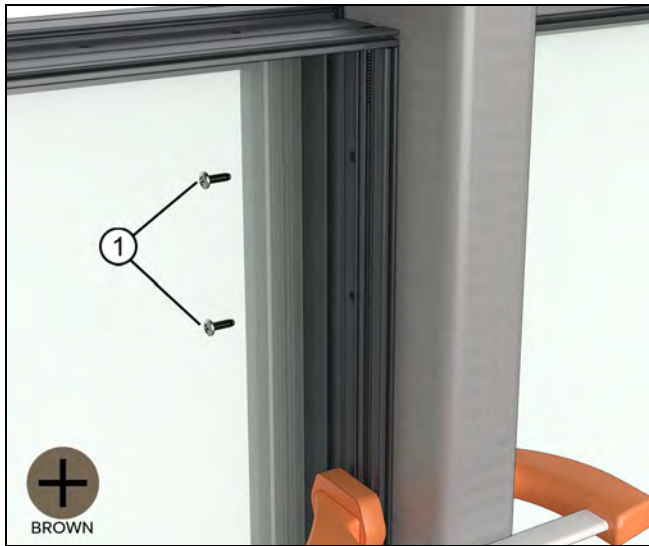

Figure 139
24. Fasten the B2 frame to the tube steel using the #8 x 1/2" trilobular screws. See Figure 139.